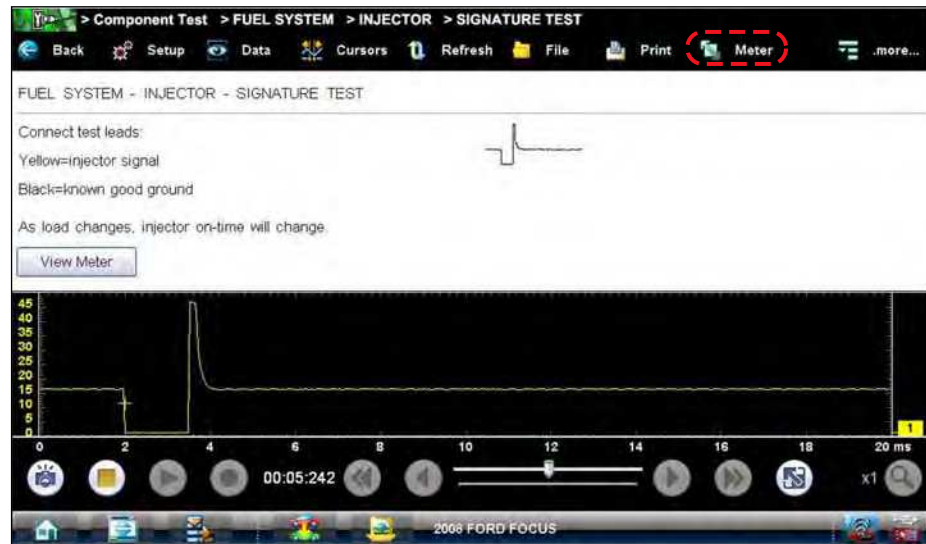

Figure 7-9 Sample view meter window
- **View Meter**—opens a live meter set up to perform the test in the lower portion of the screen (Figure 7-9). Once the meter view is open, the Component Test toolbar at the top of the screen is replaced by the Scope Multimeter toolbar, which allows you to make adjustments to the settings. See Scope Multimeter Toolbar on page 75 for details.
A Meter button, which is only available in the Component Test view meter mode, appears on the upper toolbar (Figure 7-9).
1. With View Meter active (Figure 7-9), tap the **Meter** button on the toolbar once and the meter expands to fill the entire screen.
3. Tap the **Meter** button a third time to close the separate window and return to the standard meter view as shown in Figure 7-9.